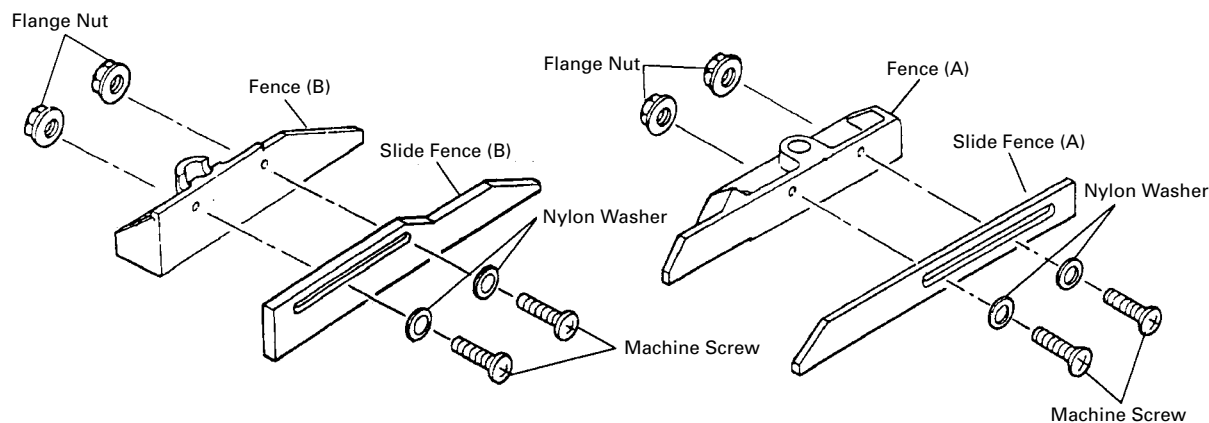

Fig. 19
- (1) Set slide fence (A) and slide fence (B) on fence (A) and fence (B) of the base.
- (2) To attach use the four machine screws with nylon washers and flange nuts as shown in Fig. 19.
- (3) Adjust slide fence (A) and slide fence (B) to stabilize the workpiece. Adjustable range of slide fence (A) and slide fence (B) is from 0 to 3-3/4" (0 to 95mm).
- (4) Confirm the position of slide fence (A) and slide fence (B) on fence (A) and fence (B) with four machine screws tightly so slide fence (A) and slide fence (B) do not move (see Fig. 19).